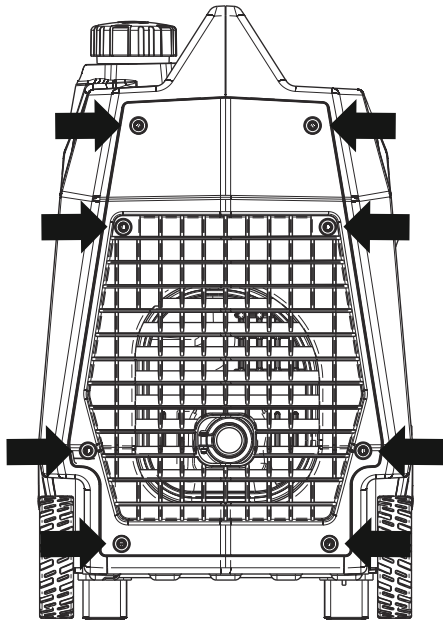

Figure 23: Remove screws holding muffler cover
3. Remove the screws holding the muffler cover in place (see Figure 23).